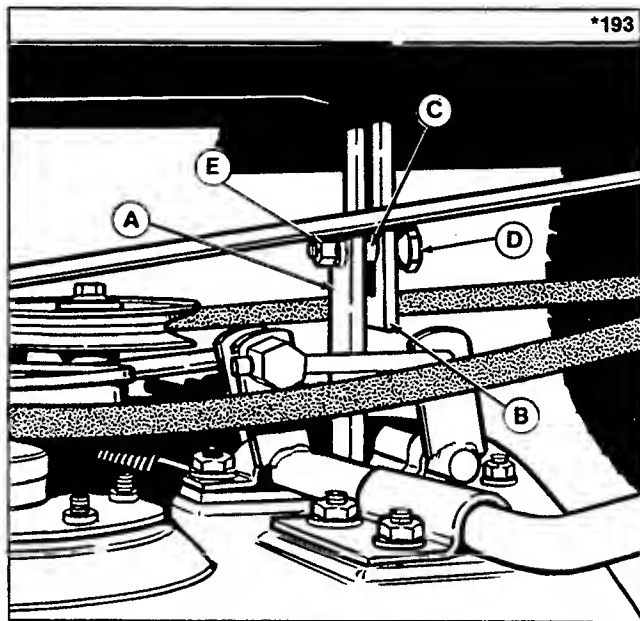

Figure 22. Mower Upstop Bracket - 36" Mower
2. With mower as far toward rear of rider as possible (rollers just clear tires) push mower under rider until hitch touches steering mechanism. To slide mower farther, push down on both the hitch and the roller arm (C). Slide mower until the hitch arms are on either side of the steering mechanism.
3. Slide the mower back toward the left and forward to align mower bracket (A, figure 22) in front of upstop bracket (B). (If drag link interferes with hitch, push hitch up for clearance.)
6. Apply a little grease to the inside of the spacer (C, figure 22) and place the spacer on the bolt (D). Install the bolt thru the upstop bracket and mower bracket from the rear. Install the locknut (E) and tighten securely. The spacer (C) must ride inside the upstop bracket (B).
3. Remove the bolt, spacer, locknut from the mower bracket (A, figure 22).
2. Remove the bolt, spacer, lockwasher and nut from the mower bracket (A, figure 22).
7. Remove the belt. Push brake away to slip belt off pulleys. Slide the mower to one side to slip belt between mower bracket and upstop bracket (B, figure 22).